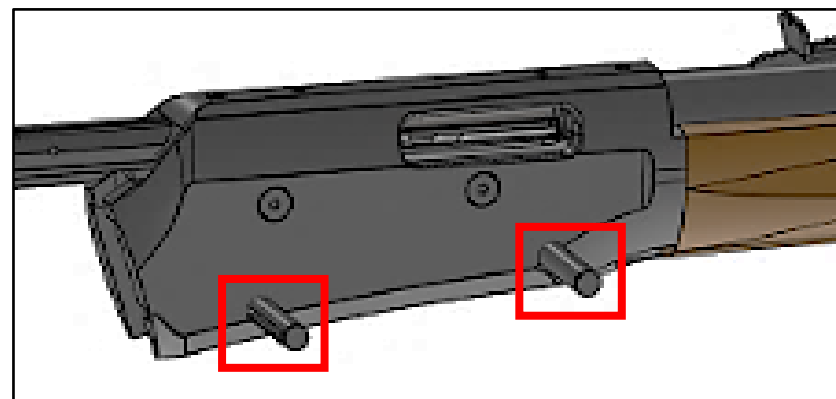

FIGURE 25
4. With the lever fully open, locate and press in on the two takedown pins on the cover to the right until they come out as far as they will go. The takedown pins are captive and cannot be fully removed – FIGURE 25.